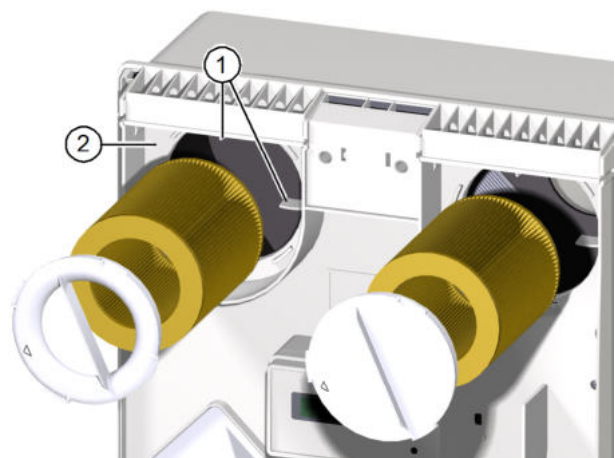

Fig. 19: Insert filter
- ▶ Make sure that the filter slides into the four retaining tabs (item 1 in Fig. 19) on the back wall of the ventilation unit.
- ▶ Place the filter ring on the extract air filter. Make sure that the filter ring lies flat on the intermediate plate (item 2 in Fig. 19).
- ▶ Make sure that the filter ring is oriented so that the arrow on the filter ring (item 3 in